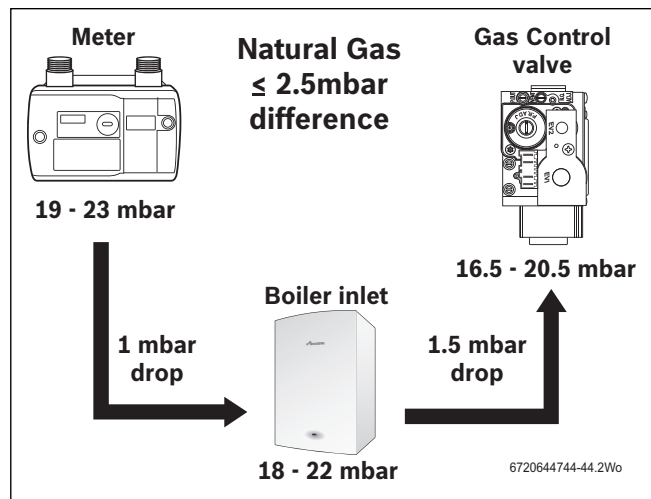
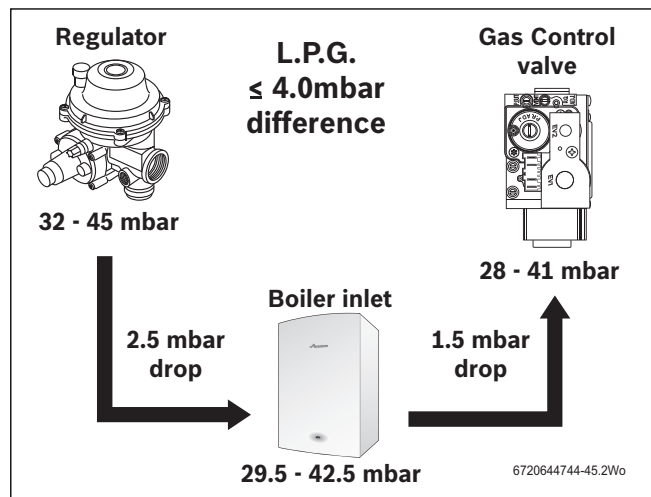

Fig. 54 Natural gas pressures
Fig. 55 L.P.G. pressures
- Press the Performance test button (J) for more than ten seconds and set Central Heating temperature to maximum.
- The Performance test button (J) will illuminate continually and the display (C) will alternate between \square and the central heating flow temperature.
- ▶ Check the gas supply working pressure at the gas valve conforms to values shown in Fig. 54 or Fig. 55 .
If the pressure drops are greater than shown in figure 54, then this would indicate a problem with the pipe work or connections within the system.
If the pressure drops are greater than shown in figure 55, then this would indicate a problem with the pipe work or connections within the system.